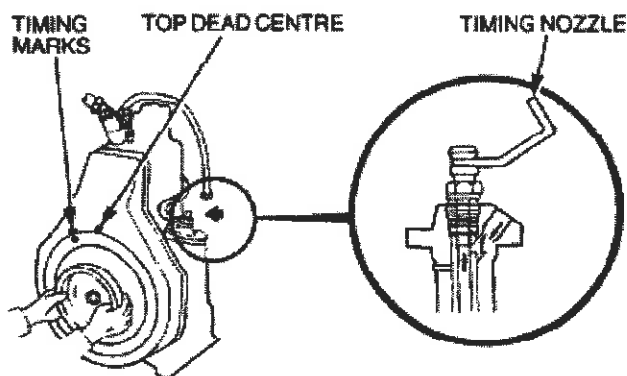

Figure 13 Correct Injection Timing
- l. Continue rotating the crankshaft in the direction of rotation until the timing mark on the flywheel guard panel aligns with the timing mark on the engine shroud at 24-26° (58-62 mm) BTDC (Figure 13). Fuel should not be visible at the timing nozzle.